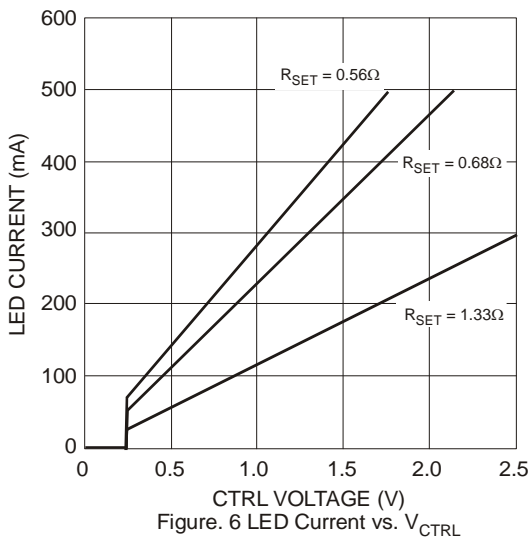

Figure. 6 LED Current vs.  $V_{CTRL}$
7. Refer to figure 6 for the device derating curve.